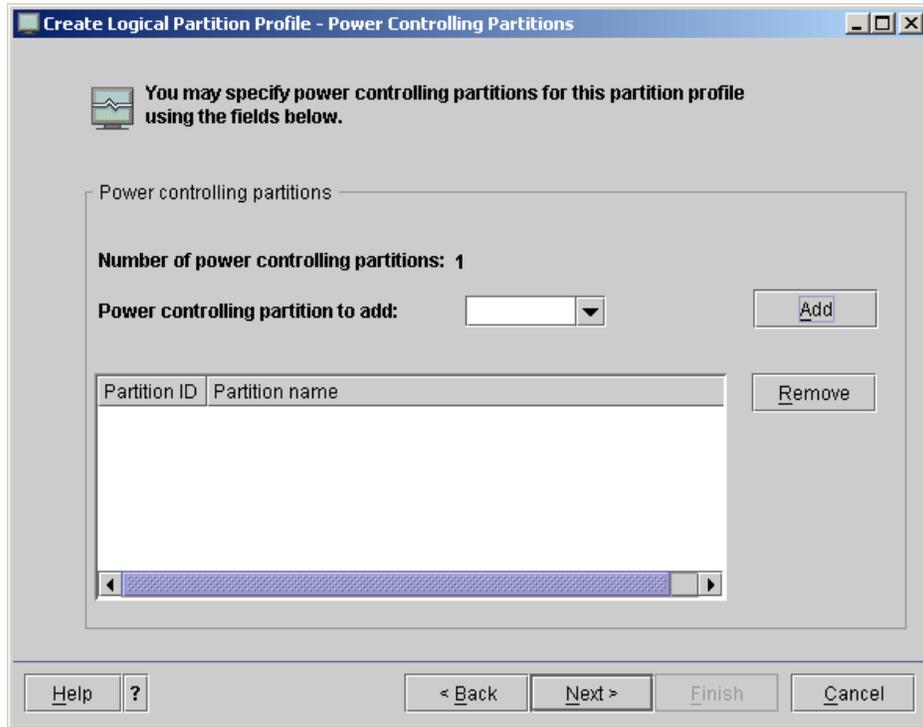

Figure 3-17 Skipping settings for power controlling partitions
- Skip the settings for power controlling partitions, as shown in Figure 3-17, by clicking **Next**.